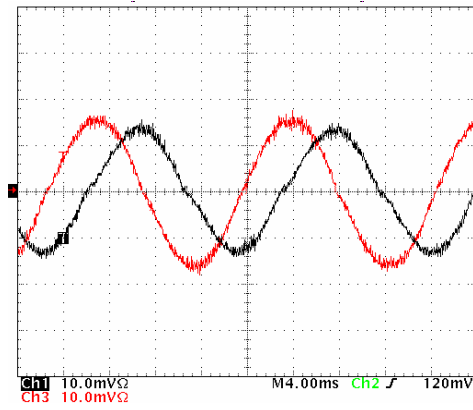

Figure 7 Motor phase currents, 2A/div (phase 1 current is leading phase 2 current by 90 degrees) .
- Figure 7 shows motor phase currents.